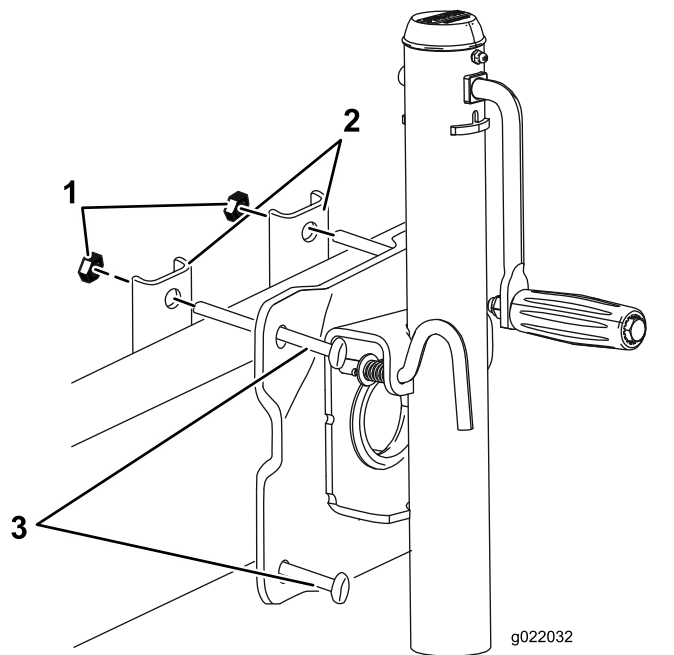

Figure 7
1. Place the jack against the tongue (Figure 7).
2. Position the 2 mounting straps on the other side of the tongue (Figure 7).
3. Secure the jack and the 2 mounting straps to the tongue using 4 bolts and 4 locknuts (Figure 7).